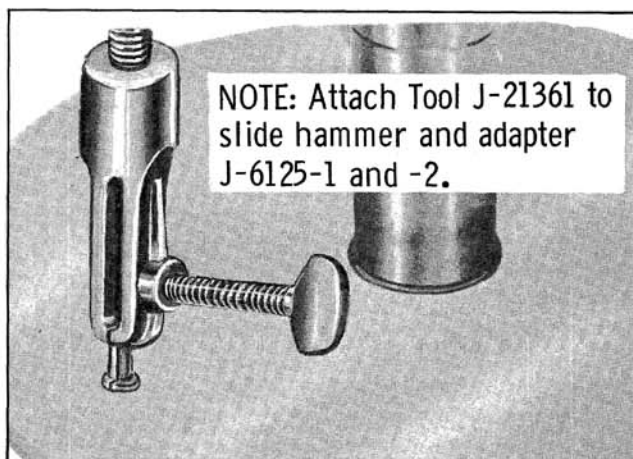

Fig. 6-413 Removing Cooler Bypass Valve
8. Remove seat, valve and spring from cooler bypass valve. Use Tool J-21361 attached to a slide hammer to remove seat from bore in pump cover. (Fig. 6-413)